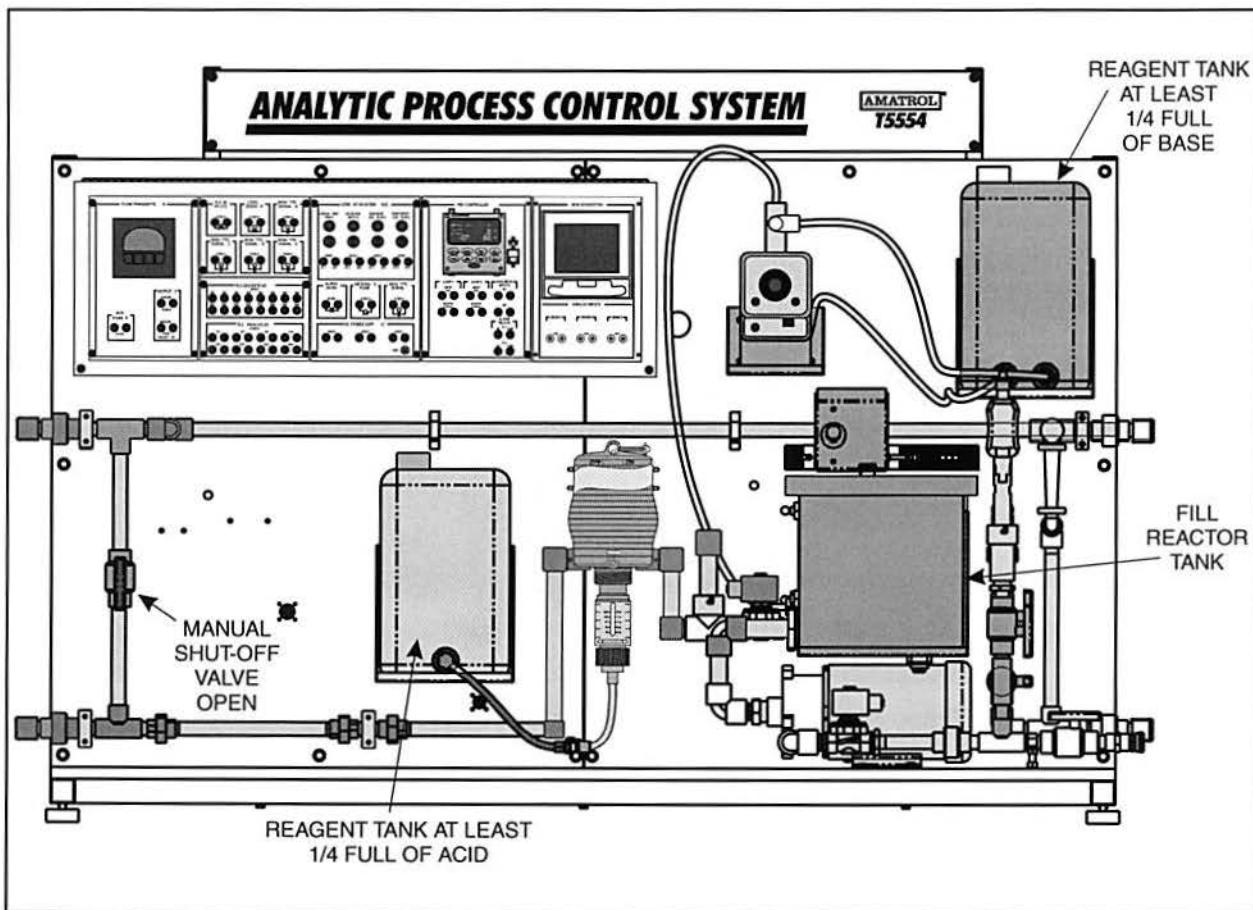

Figure 50. Setup for T5554
- 2. Perform the following substeps to set up the T5554, as shown in figure 50.